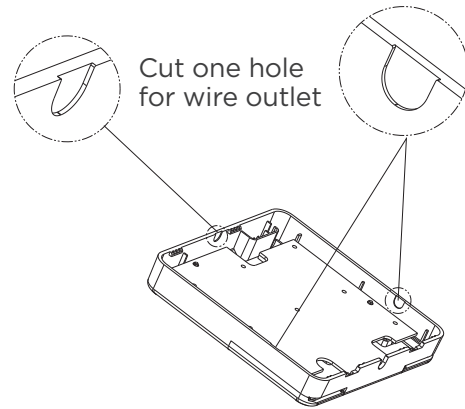

Fig. 5
- For exposed mounting, cut holes on four of the sides according to Fig. 5.